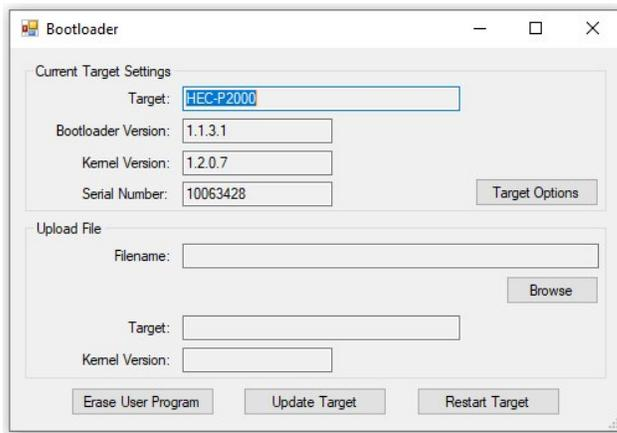

Figure 2.38 - HEC-P2xxx Bootloader
7. Using the menu, click **PROJECT** then **BOOTLOADER**. You may see a window momentarily while EZ LADDER connects to the HEC-P2xxx's bootloader. The Bootloader window will open. See Figure 2.38.